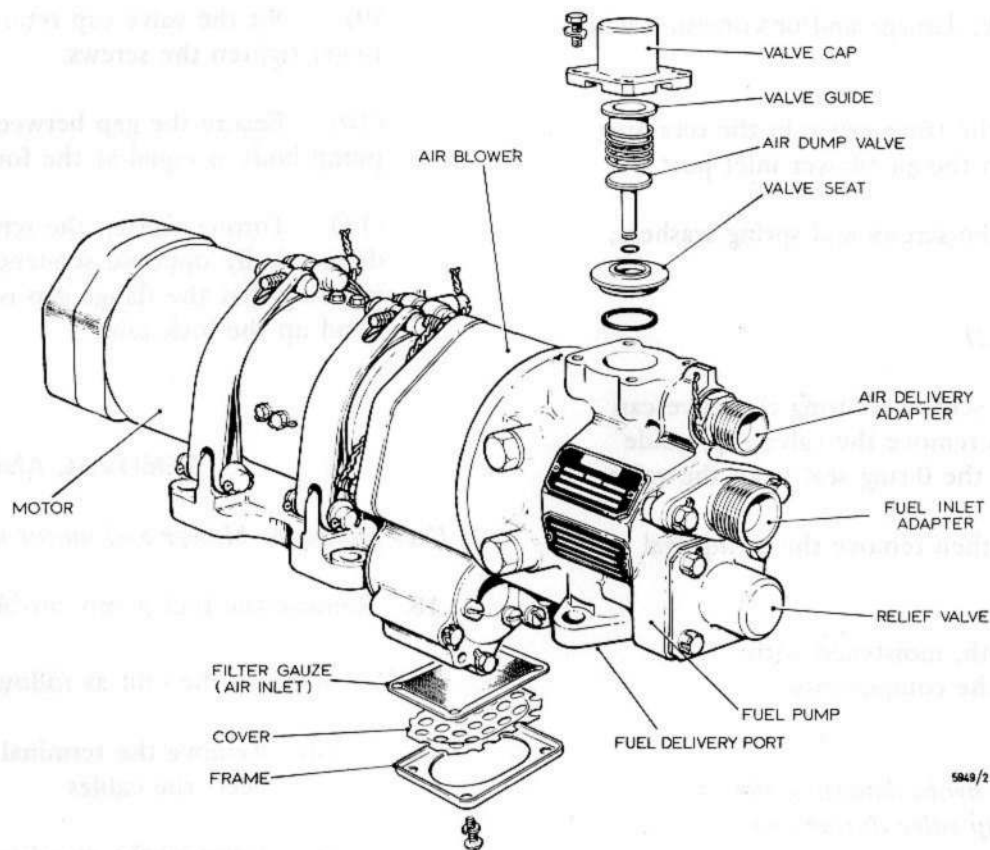

Fig. 2 Exploded view of air blower inlet filter and air dump valve.
12. Whenever the IPN electrical system has been disturbed, check the relevant circuit for continuity and, using tester, Item 1, check that the insulation resistance is not less than 5 megohms Refer aircraft wiring diagram (Sect. 5 Chap. 1 Group J & K Fig. 2)
13. (1) Remove both safety discs as detailed in para. 30, then, using a suitable probe torch, examine the combustion chamber for fuel content.
(12) Fit the O-ring seals to the external grooves on the air valve sleeve and the spigot on the air valve guide.
(13) Assemble the sleeve, interposing the original shim(s), to the inlet port then, holding the sleeve firmly in position, measure the clearance between the sleeve flange and the housing; this should be between 0.002 and 0.005 in. Adjust the thickness of the shim(s) to suit.
(14) Fit the O-ring seals to the internal grooves in the air valve sleeve, then assemble the atomizer to the starter as described in para. 35.
*Clean and examine the air blower filter (fig. 2)*
16. (1) Remove the screws and washers securing the retaining frame, then remove the frame, cover and filter gauze.
- (2) Clean the filter gauze in cleaning fluid, Item 8, then dry with clean, dry compressed air.
- (3) Examine the filter gauze; damage and/or corrosion will entail rejection.
- (4) Position the cover and the filter gauze in the retaining frame, then locate the frame on the air blower inlet port.
- (5) Secure the frame with the screws and spring washers; fully tighten the screws.
*Renew the air dump valve seal (fig. 2)*
17. (1) Unlock and remove the screws securing the valve cap to the fuel pump housing, then remove the valve cap, guide spring and dump valve; remove the O-ring seal from the valve.